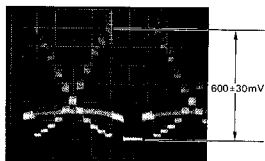

Fig. 5-8
- Adjust data by **ARROW** keys so that signal level becomes $460 \pm 30 \text{ mV}$ as shown in Fig. 5-8.